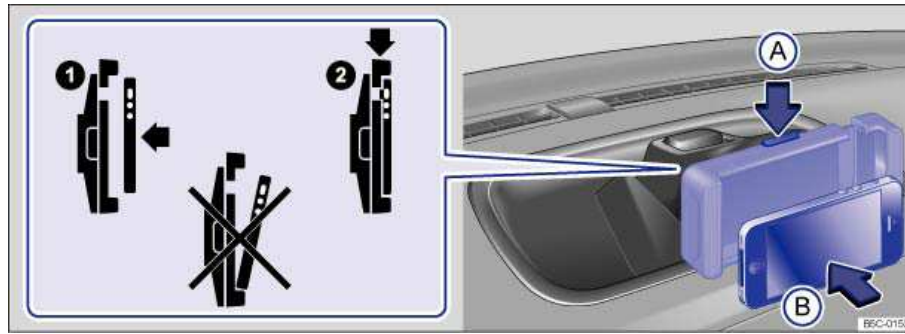

Fig. 149 On the center console: Inserting the iPhone®.
- With the release button pressed ⇒ fig. 149 (arrow (A)), insert the iPhone® straight into the holder (arrow (B)) ⇒ ⚠.
- Press the release button ⇒ fig. 149 (arrow (A)) with the other hand and remove the device from the holder.
- Always insert the iPhone® straight into the portable iPhone® holder ⇒ fig. 149. If the iPhone® is inserted at an angle, the electrical contacts on the iPhone® and the portable iPhone® holder could be damaged.